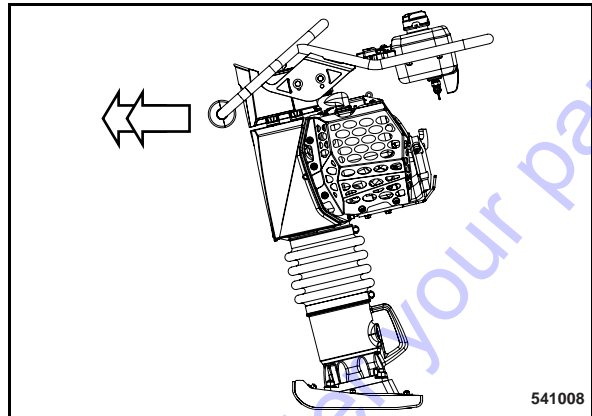

Fig. 18
- The forward moving speed can be influenced by applying weight on the steering bow (Fig. 18).